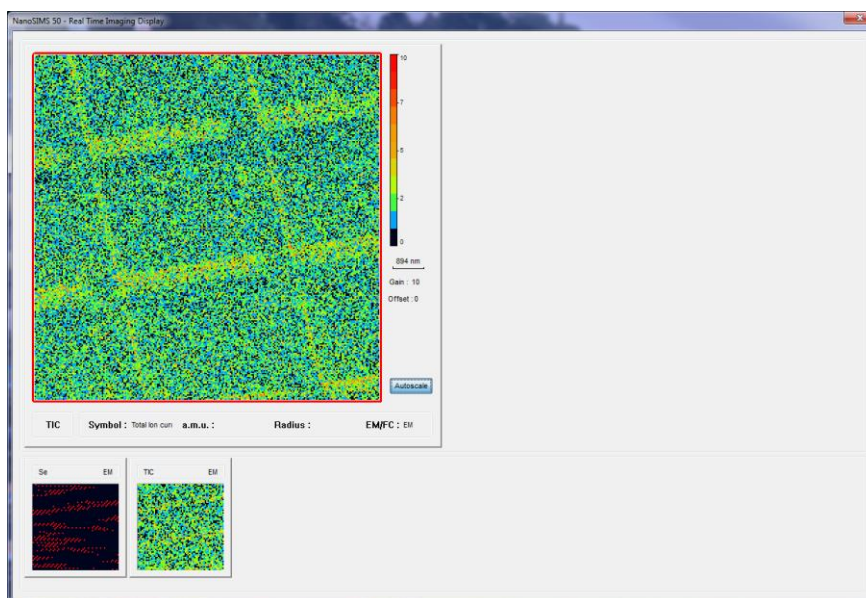

Figure 326: RTI in TIC mode
- Click on “Start”: a Real-time TIC image of the sample appears in another window (Figure 326).